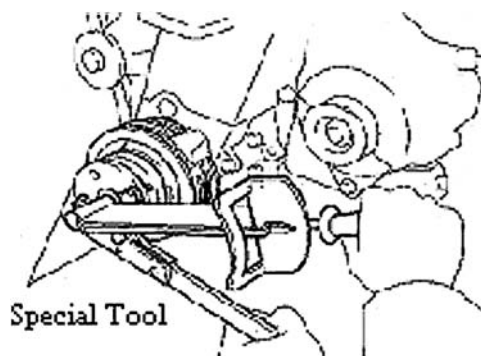

Figure 47
29. Install crankshaft pulley. See (Figure 47)